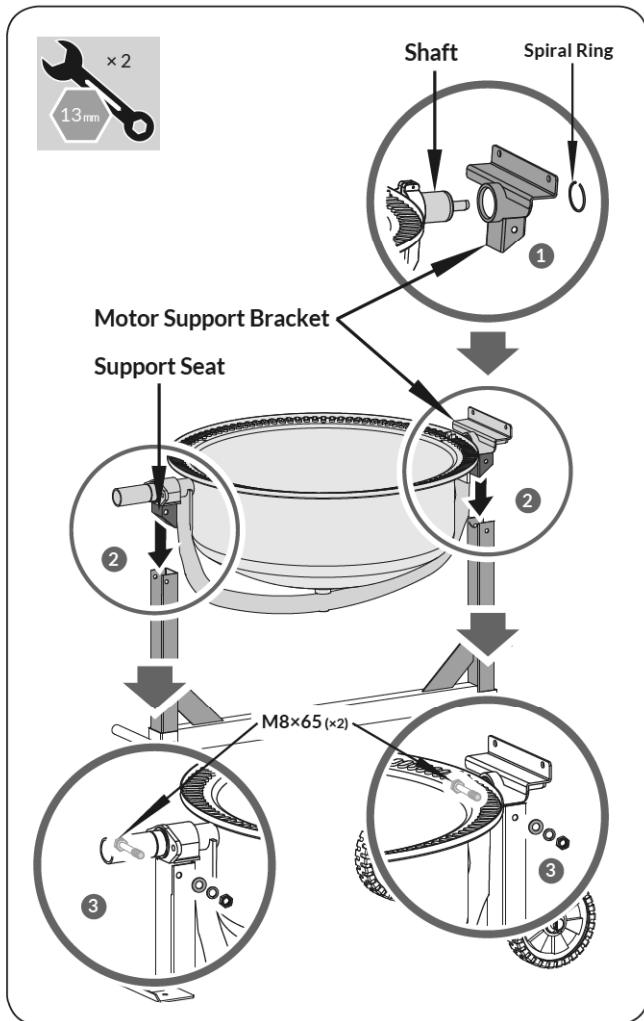

Figure 2
1. Slide the motor support bracket on the shaft. Hold it in place with Ø42 spiral ring. (See **Figure 2, illustration 1**)
2. Carefully place the bottom drum with support arm onto the side supports of the stand as shown. (See **Figure 2, Illustration 2**). The motor support bracket and support seat should slide into the side support channel on each side. The larger diameter shaft should be at the leg end of the stand.
3. On each side, line up the holes in the side support with those in the bearing block and insert a M8×65 hex bolt from one side, then a flat washer, lock washer and nut from the other side. Tighten with a wrench. (See **Figure 2, illustration 2-3**)